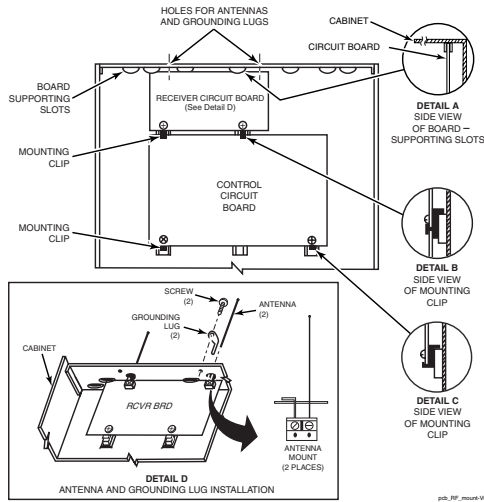

Figure 1: Installing the Receiver Board in the Control's Cabinet
2. If the receiver is to be mounted within the control's cabinet (refer to Figure 1):
- c. Hang two mounting clips (provided with the receiver) on the raised cabinet tabs, as shown in Detail B of Figure 1.
- f. Hang two mounting clips (supplied with the control board), on the raised cabinet tabs as shown in Detail C in Figure 1.